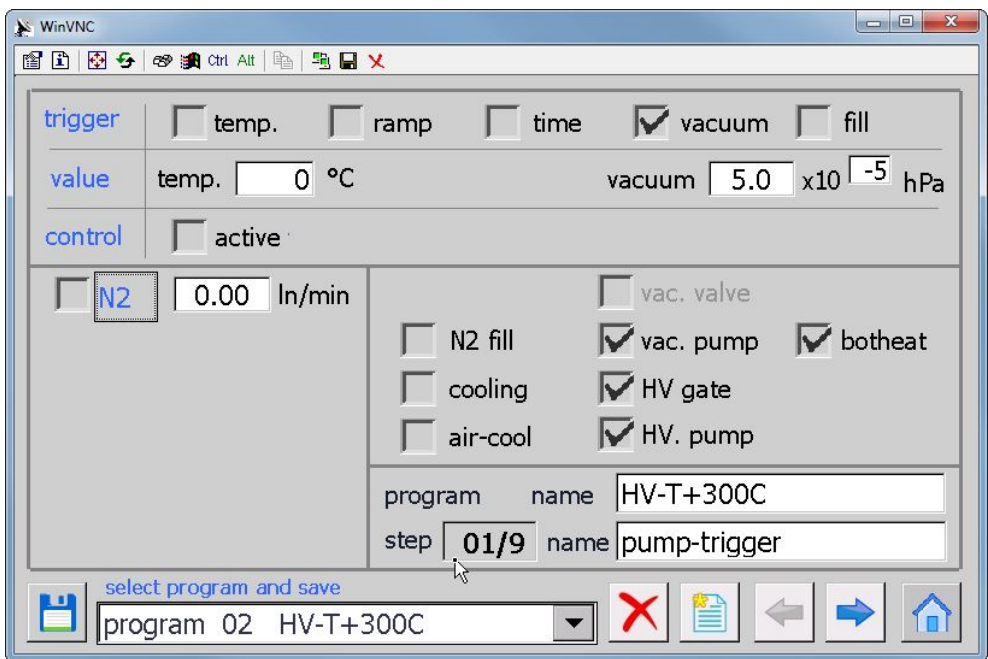

Figure 22: Program step for evacuation using high vacuum pump system
Step 1 (Figure 22) uses a trigger type “vacuum” with a set value of 5.0×10^{-5} hPa by using both fore pump and high vacuum (HV) pump. Once the set pressure is reached the program will continue with next step (Step 2).